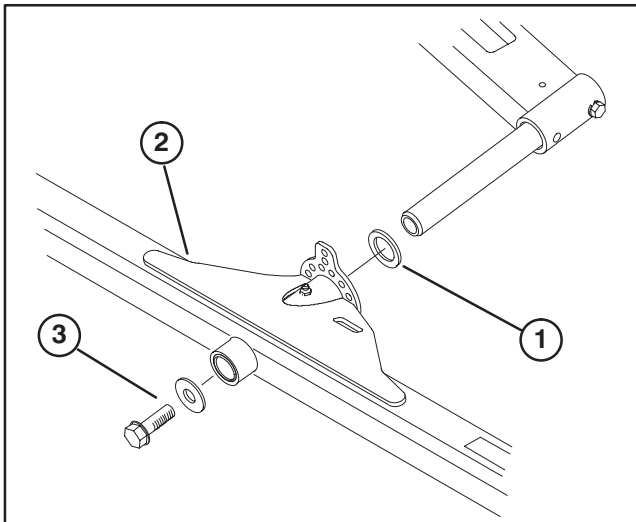

Figure 10
MOUNT CUTTING UNITS (Fig. 10–11)
2. Slide cutting unit carrier frame onto pivot rod and secure with a flatwasher and flange head capscrew (Fig. 10).